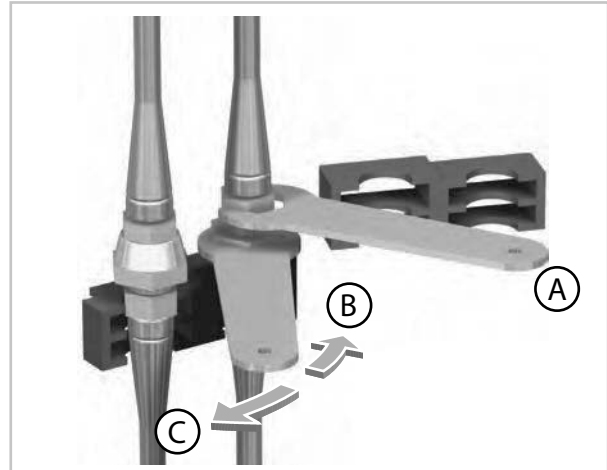

Fig. 15: Unscrew the right-hand union nut
- 11.► Unscrew the right-hand union nut with the size 24 open-ended spanner provided. In doing so, use the second size 21 open-ended spanner to hold the upper coupling section still (Fig. 15).